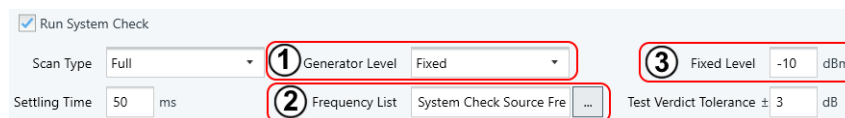

Figure 4-46: Settings 2 and 3 depend on the generator level selection (1)
- "Fixed" allows selecting a frequency list (see 2 in Figure 4-46) together with specifying a fixed generator level (3).
- "LimitLine" allows selecting a frequency list (2) together with specifying a fixed offset (3) from the selected limit line (see below). When you select a limit line, R&S ELEKTRA performs measurements only for ranges that the limit line covers. The level calculation considers only the first detector limit defined in the selected limit line.
- "Normalization" allows selecting a normalization table (2) that contains frequencies and predefined levels at these frequencies.